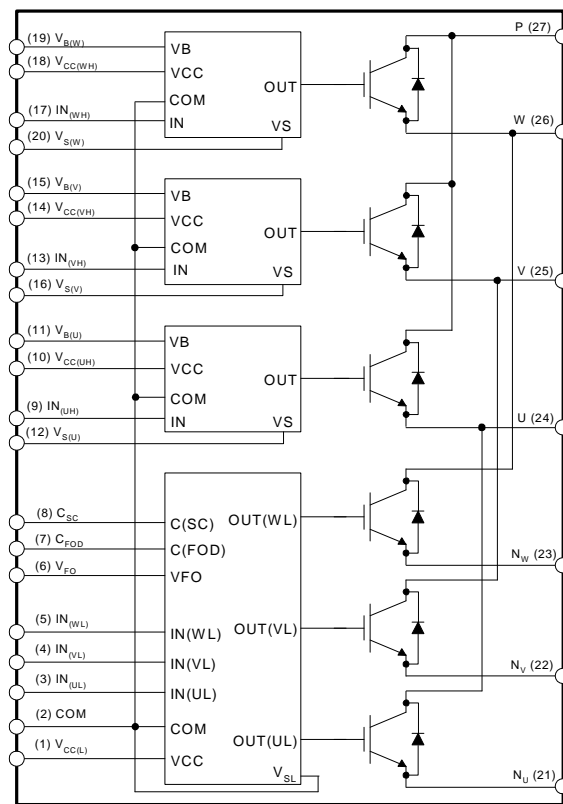

Figure 3. Internal Block Diagram
- 600 V - 20 A IGBT inverter for three-phase DC / AC power conversion (please refer to Figure 3)